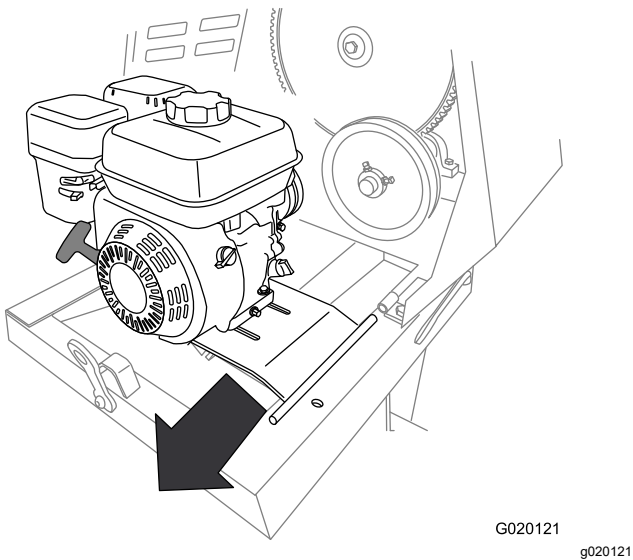

Figure 51
- Align the pivot on the engine deck with the forward hinge bracket (Figure 51).
- Slide the engine deck forward and the pivot into the forward hinge bracket (Figure 51).
- Align the rear hinge bracket with the pivot on the engine-deck hinge (Figure 51).
- Slide the engine deck rearward and out from the forward hinge bracket (Figure 51).
- Remove the engine and engine deck from the machine (Figure 51).